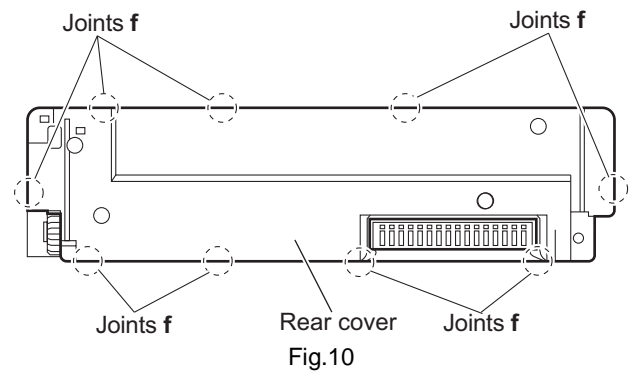

Fig.10
- (2) Release the ten joints **f**. (See Fig.10.)
3.2.5 Removing the clamper assembly (See Figs.10 and 11)